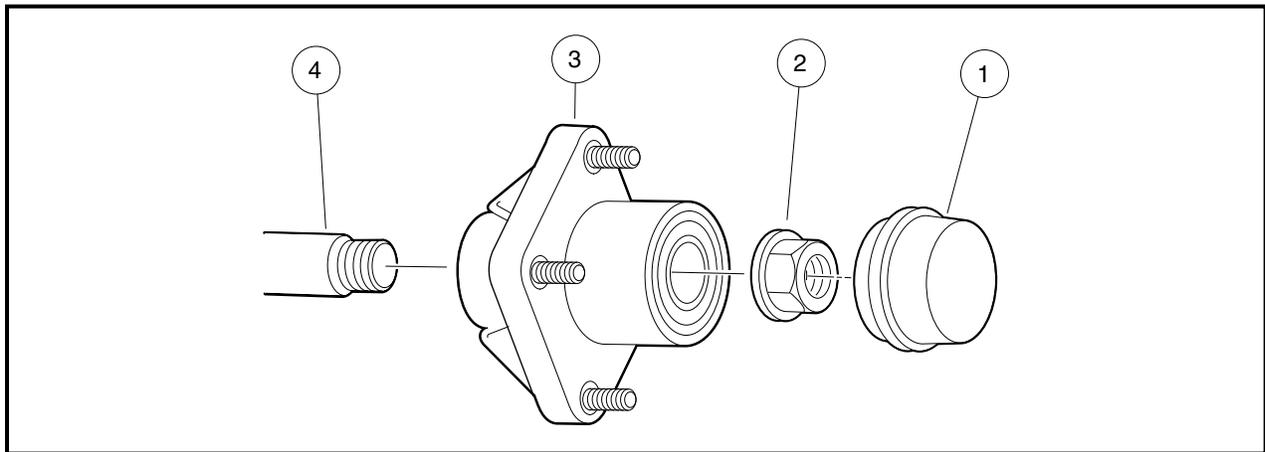

Figure 7-26 Front Wheel Hub – Turf 1 and Carryall 1
2. Remove dust cap (1) and lock nut (2) (**Figure 7-26, Page 7-25**).
3. Slide the hub assembly (3) off of the spindle shaft (4).
2. Slide the hub assembly (3) onto the spindle shaft (**Figure 7-26, Page 7-25**).
5. Install the dust cap (1) using a rubber mallet and tapping lightly around the edge of the cap.